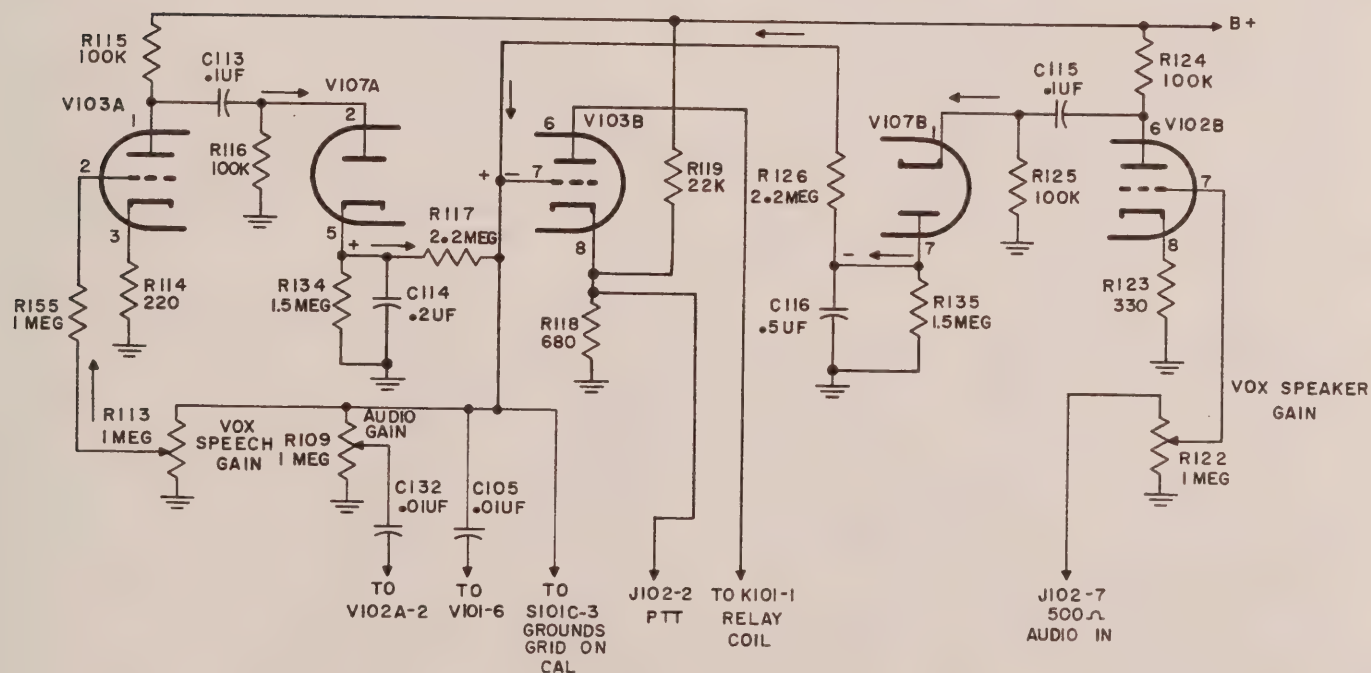

Figure 4-2. VOX Circuits, Simplified Schematic Diagram
Part of the audio output from V101 is taken off the AUDIO GAIN potentiometer R109 and fed through the VOX SPEECH gain control R113 to the control grid of amplifier V103A. Thus, by R113, the amplitude of audio signals applied to V103A is regulated. V103A amplifies the signal, which is then coupled through C113 to rectifier V107A. (See figure 4-2.) This circuit includes the diode d-c return resistance R116, and diode load R134 and C114. The value of the diode load components is chosen to produce a time constant for "fast attack and slow release" characteristics. Thus, the condenser charges quickly and discharges slowly. V107A converts the amplified VOX audio signal immediately to a plus d-c voltage, but, due to the diode load time constant, the d-c charge tapers off slowly to prevent relay K101 from shutting off between words spoken into the microphone. The plus d-c voltage present on the cathode of V107A is passed through R117 to the control grid of relay amplifier V103B; the plate current of V103B operates relay K101, responding to the diode load voltage and time constant. Cathode resistors R118 and R119 holds the bias on V103B to a point where the relay is not quite operating. Thus, when audio is spoken into the microphone, a portion of the signal passes through the VOX SPEECH gain control R113, is amplified in V103A, and converted to a plus d-c voltage in V107A. The d-c is applied to V103B grid to overcome the bias on the cathode, causing the tube to conduct more, enough to operate relay K101. When the audio signal source ceases, the operating level of V103B is retarded by R118 and R119, which would normally shut off relay K101, but the time constant of the diode load holds the relay in operation long enough to carry over from word to word of the microphone input.
the cathode of rectifier V107B. This rectifier circuit is identical to V107A, except V107B is connected in reverse, such that a negative voltage is produced and applied through R126 to the grid of relay amplifier V103B. This occurs at the same time the plus voltage is being applied from V107A, at point (A) in figure 4-2. The plus and minus voltages are adjusted by potentiometers R113 and R122 to a point at which they balance out, preventing the receiver speaker signals from operating the transmitter relay K101.